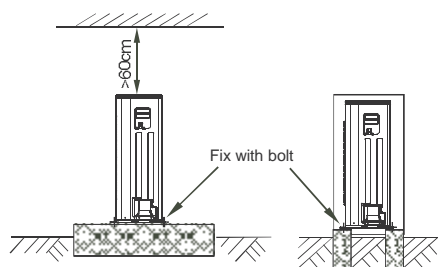

Fig.6-11
- Make concrete foundation according to the specifications of the outdoor units. (Refer to Fig.6-11)